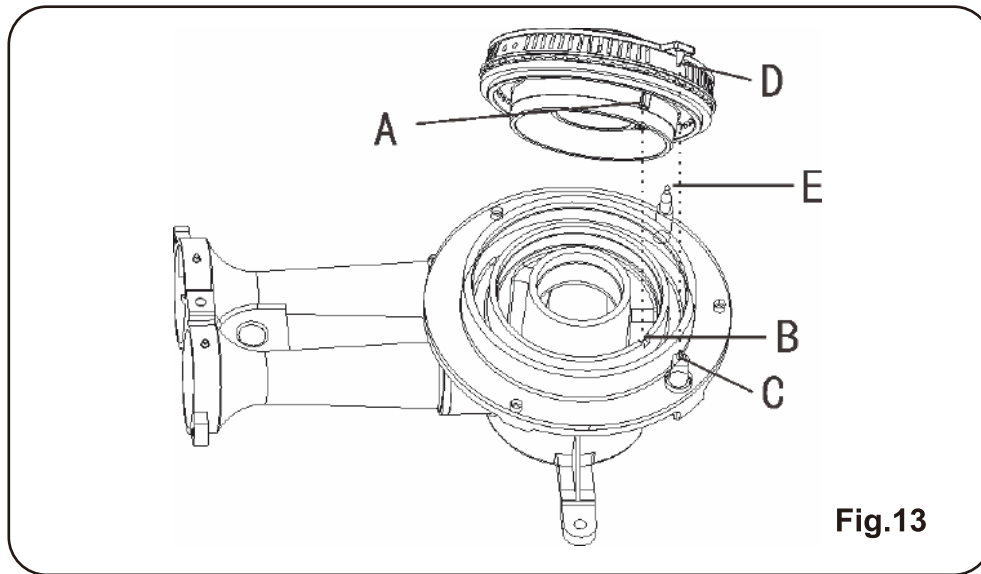

Fig.13
After cleaning the burners and the caps must be well dried and put back correctly. Check that the burner elements are positioned correctly (Fig.13) Failure to do so can cause serious problem. As indicated by the arrow, the positioning boss (A) of the burner assembly must be placed on the corresponding groove (B) of the burner head, so that the ignition needle electrode (C) is facing the ignition end (D) of the burner .It will not rotate if placed correctly.